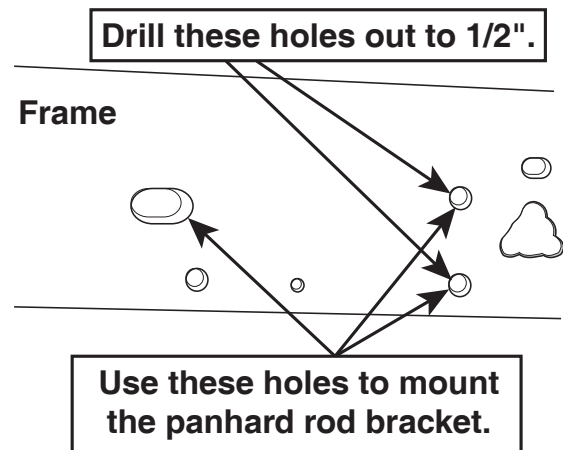

Figure 8
2. Line the bracket holes up with the existing holes in the frame (Figure 8).